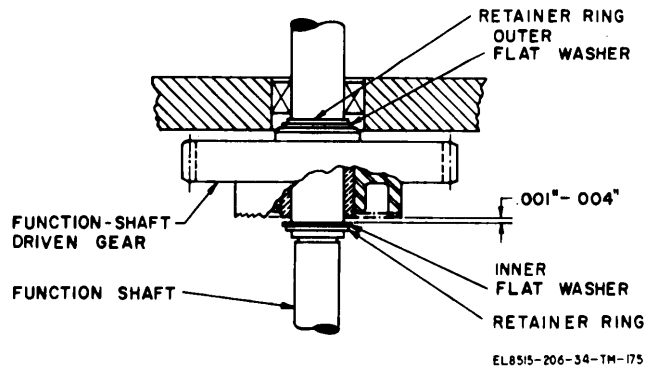

Figure 3-103. Function-shaft driven gear end-play adjustment.
**3-136. Function-Shaft Driven Gear End-Play Adjustment (fig. 3-103)**